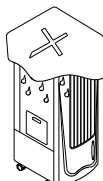

Fig9
3. Do not place heavy objects on top of the unit. Do not obstruct the air outlet. Keep a minimum space of 6 inches around the unit. (Fig. 9)